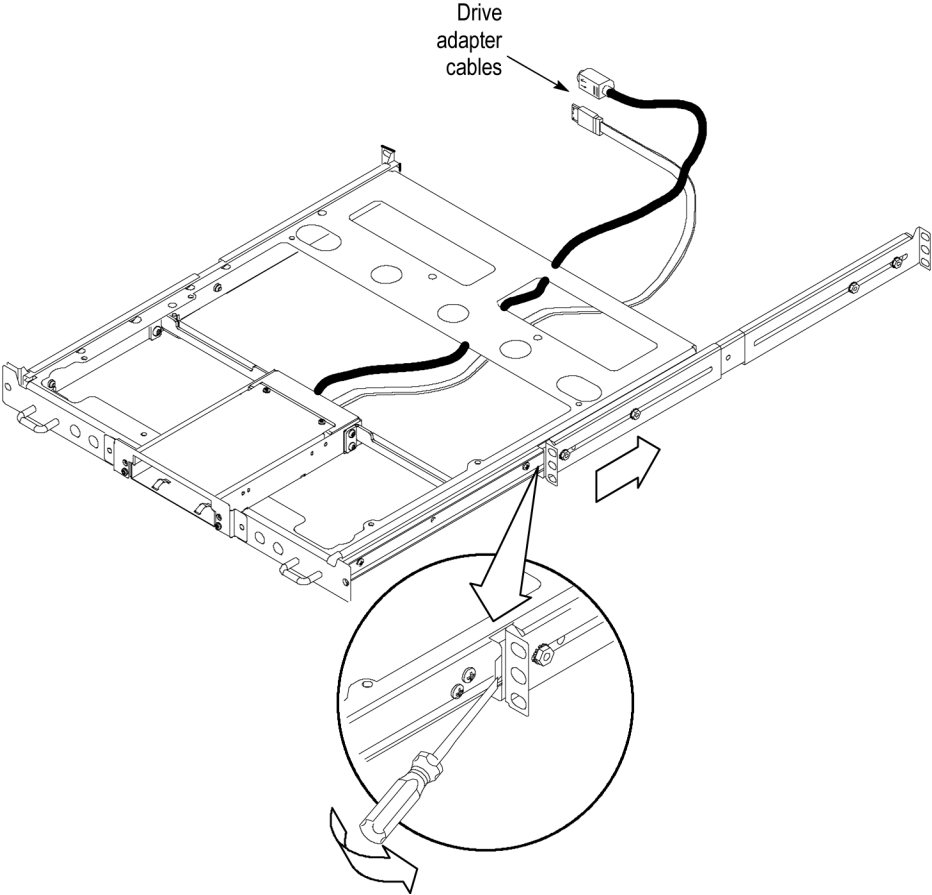

Figure 6: Removing the rack slides (configurations 1 and 2 shown)
3. Install the drive adapter cables to the Drive Adapter. Dress the drive adapter cables as shown. (See Figure 6.)
4. Remove the rack slides. (See Figure 6.)